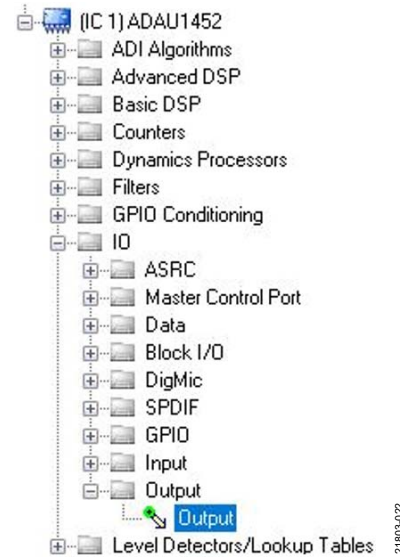

Figure 22. Adding an **Output** Component
4. Add two output blocks, **Output1** and **Output2**, by clicking the **Output** component from the **(IC 1) ADAU1452 > IO > Output** folder (see Figure 22), and then dragging it into the project space. Ensure that these blocks, which represent output channels, are assigned to Channel 0 and Channel 1.